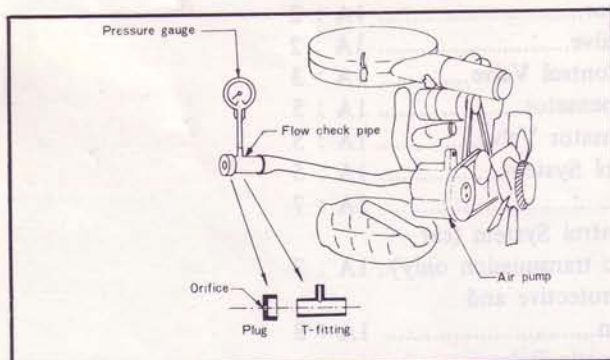

Fig. 1A-1 Checking air pump
6. Attach the **air pump gauge set** (49 2113 010A) as shown in Fig. 1A-1.